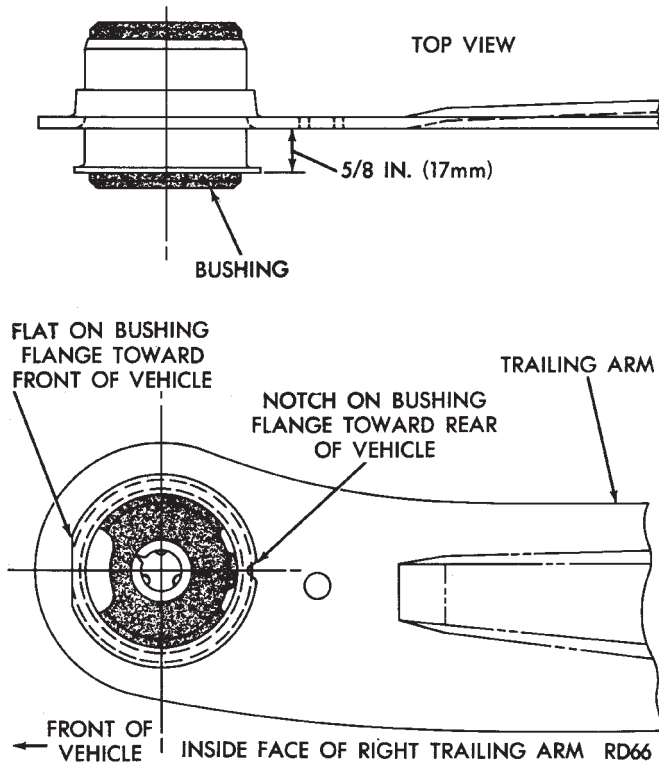
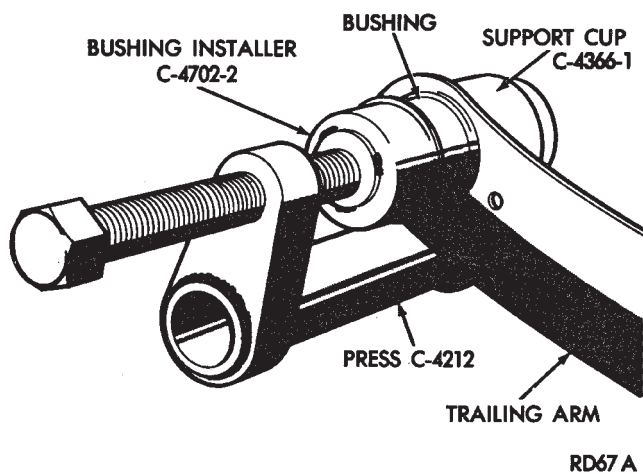

Fig. 5 Proper Position of Pivot Bushing
Fig. 6 Tools Assembled for Bushing Installation
(1) Align the bushing with the bushing mounting hole in the trailing arm bracket (Fig. 5). Tap bushing in slightly to hold it in position on trailing arm.
(2) Assemble Bushing Installer Special Tool C-4702-2 onto press screw and Support Cup Special Tool C-4366-1 into press base. **Position assembly as shown in (Fig. 6) and press bushing into arm to depth shown in (Fig. 5).**